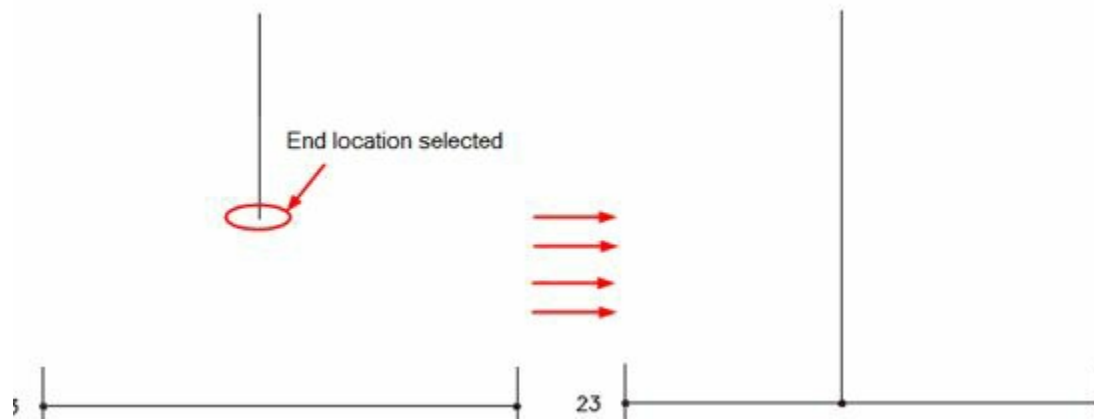

Figure-61. Stretching wire
- Click on the wire near the end point. The wire will stretch till it intersect with the facing wire; refer to Figure-61.